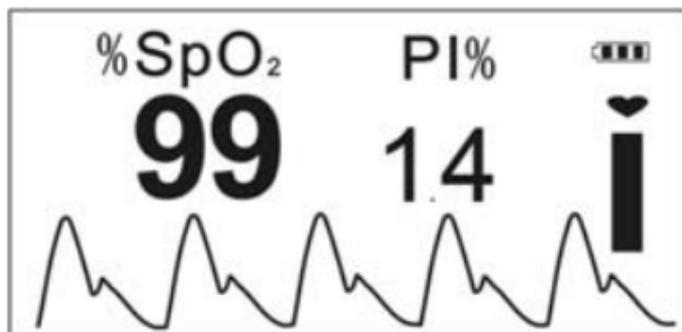
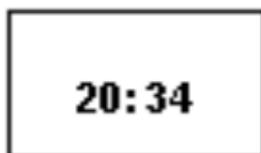

Figure 9C
Figure 9D Real Time Clock
- Short press “■” key to switch display modes circularly, display screen will be switched among the three measure screens displays as shown in Figure 9A, Figure 9C and Figure 9D.